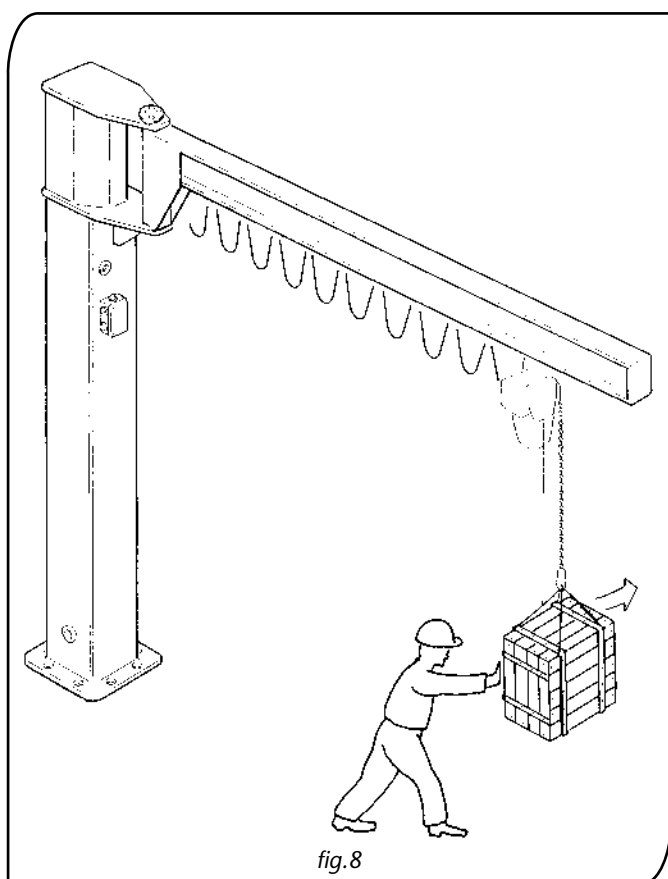

fig.8
4. In all cases the **rotation movement of the jib crane arm**, both in a clockwise and anti-clockwise direction, is activated manually, with a **pushing flexing of the load** (fig. 8).